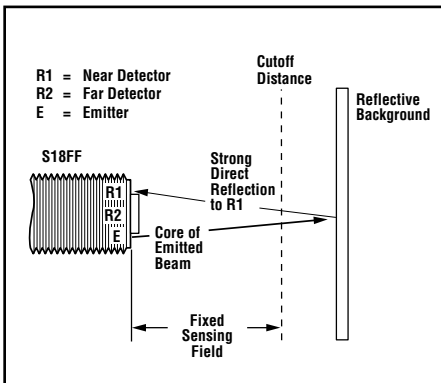
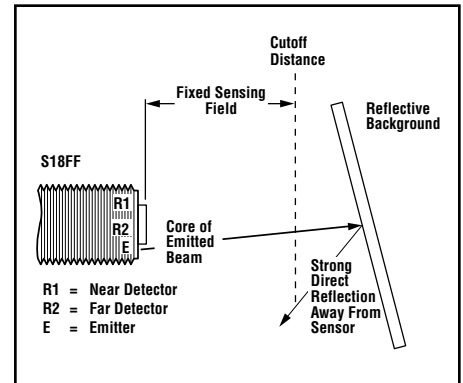

Figure 3. Reflective background – problem
Figure 4. Reflective background – solution
*Avoid mirror-like backgrounds that produce specular reflections.* False sensor response will occur if a background surface reflects the sensor's light more strongly to the near detector, or "sensing" detector (R1) than to the far detector, or "cutoff" detector (R2). The result is a false ON condition (Figure 3). To cure this problem, use a diffusely reflective (matte) background, or angle either the sensor or the background (in any plane) so the background does not reflect light back to the sensor (see Figure 4). Position the background as far beyond the cutoff distance as possible.